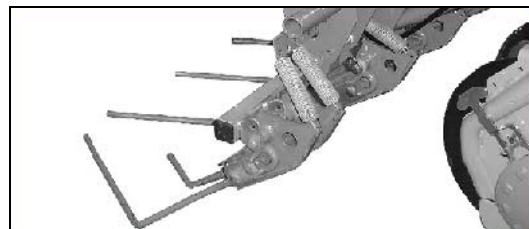

Fig. 38
The hydraulic ram (Fig. 38/1) is fitted to the extra coverage harrow when supplied. Connect the hydraulic hose (Fig. 38/2) to the hydraulic ram (Fig. 38/1).
**Allow the hydraulic hose (Fig. 38/2) to have a sufficiently large loop in it when fitting to the pivoting points of the link arms of the extra coverage following harrow to prevent the hose being torn apart by movement of the extra coverage following harrow.**